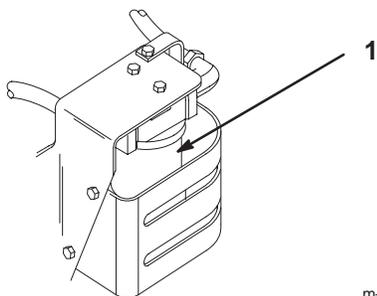

Figure 28
2. Place drain pan under filter, remove the old filter and wipe the filter adapter gasket surface (Fig. 28).